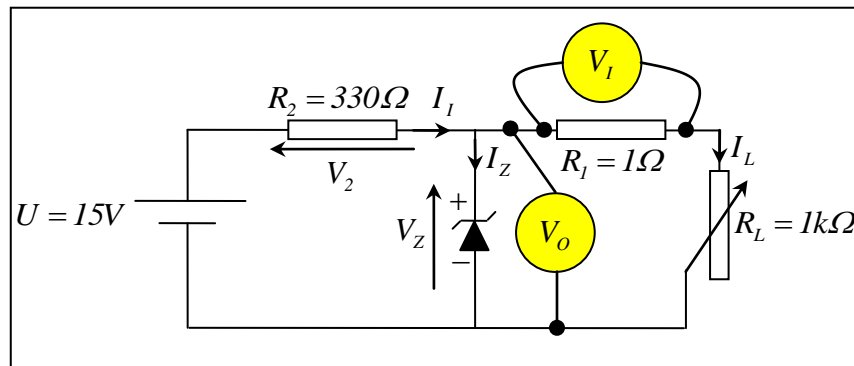

Figure 2. Circuit showing the influence of load resistance and load current on the output voltage
- Supply the circuit shown in Figure 2 with an operating voltage $U = 15V$. Using potentiometer R_L , set the load currents given in Table 2 and measure the output voltages $V_O \approx V_Z$.